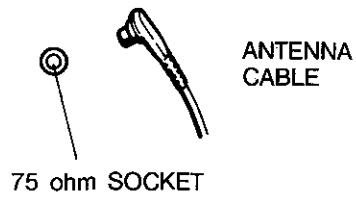

Figure 3
- In case of using the coaxial cable (75 ohm) for UHF/VHF antenna, connect the plug (refer to figure 5) into the 75 ohm socket as shown in figure 3.